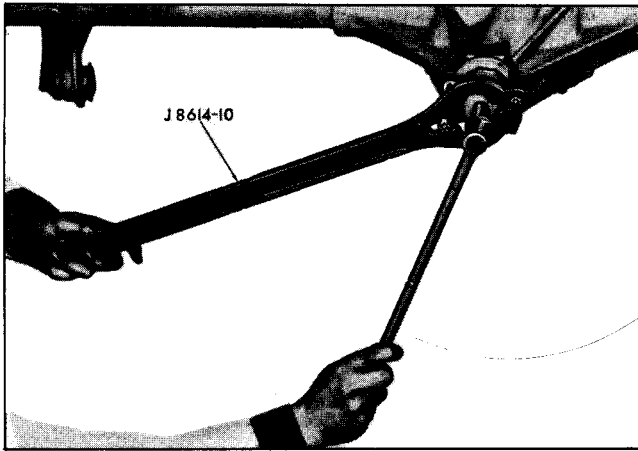

Fig. 4A-8 Removing Drive Pinion Nut
5. Hold companion flange with tool J 8614-1 (Fig. 4A-8) and remove drive pinion nut and washer using heavy duty socket.